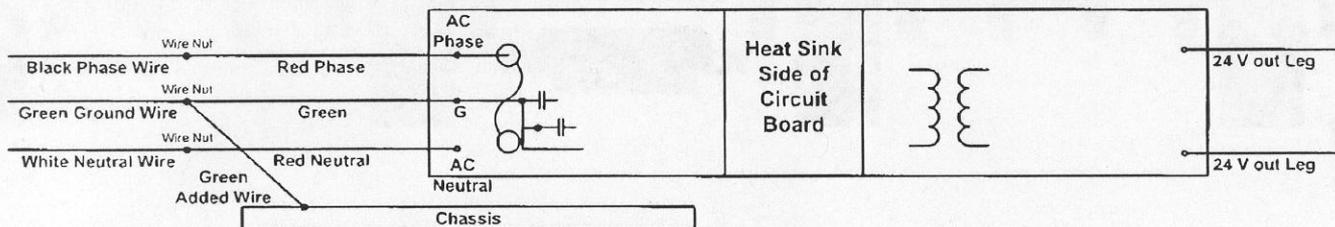

Figure 1 Initial Configuration
4. Confirm that the black phase leg is connected to the wire on the circuit board furthest from you as shown in figure 1 below. If this is not wired correctly the light may be damaged.
10. Unscrew the wire nut from the cord white neutral leg (the wire from the circuit board that is nearest you as shown in figure 1 above). At this point there should be 2 loose wires (green and red) that come from the circuit board.